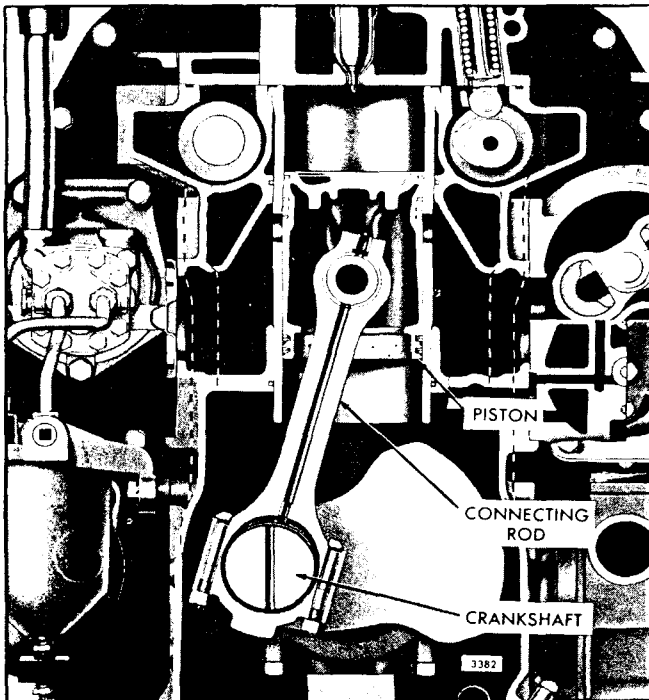

Fig. 1 - Connecting Rod Mounting
1. Install an expander in the upper oil ring groove (Fig. 1), being careful not to overlap the ends.
1. Install an oil ring expander (circular abutment) in the upper oil ring groove of the piston (Fig. 1). The expander must be completely seated in the groove.
Each connecting rod (Figs. 1 and 2) is made of steel forged to an "I" section with a closed hub at the upper end and a cap at the lower end. The rod is drilled to provide lubrication to the piston pin at the upper end and is equipped with an oil spray nozzle for cooling the underside of the piston head on engines equipped with an oil cooler. Engines that are not equipped with an oil cooler do not use nozzle type connecting rods.